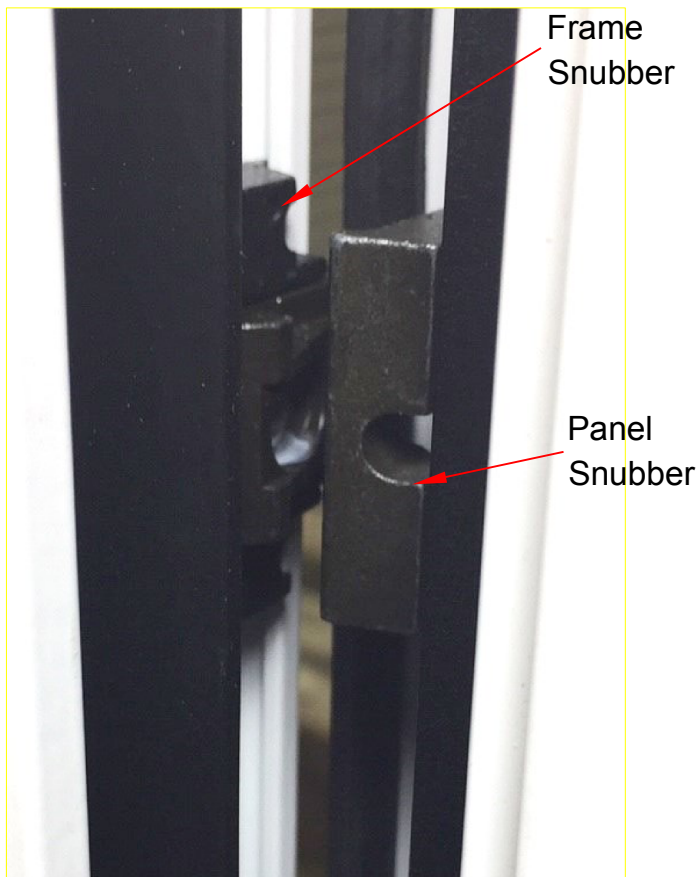

Figure 19
C. Check the snubber alignment by opening the door until the panel snubber and the frame snubber can be viewed. The panel snubber should align with the frame snubber (See figure 19).